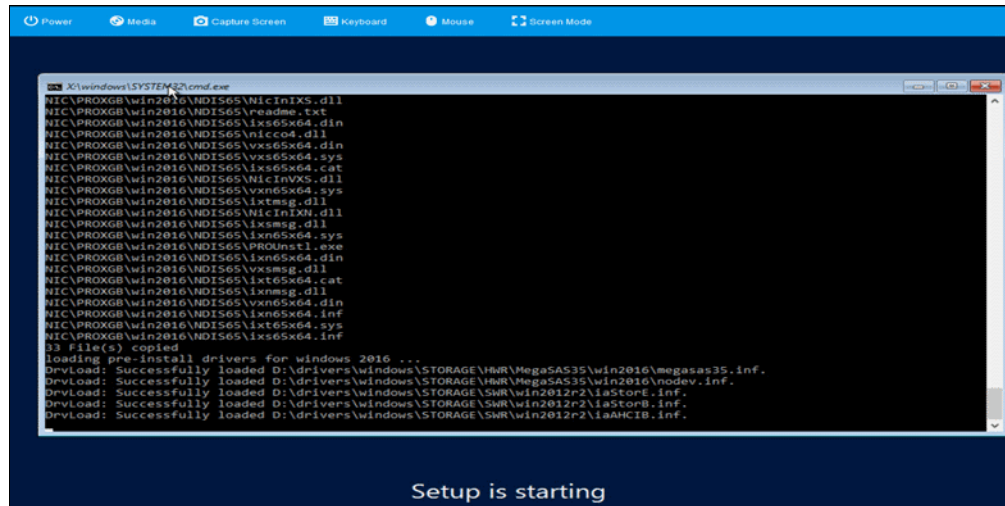

Figure 6-37 Windows drivers loading screen
12. If the drivers are mounted separately from the OS then during the installation the base OS will not find any drives. Select **Load Drivers** when prompted and navigate to the drive containing the driver. The drivers will then load as shown in Figure 6-37 on page 204.